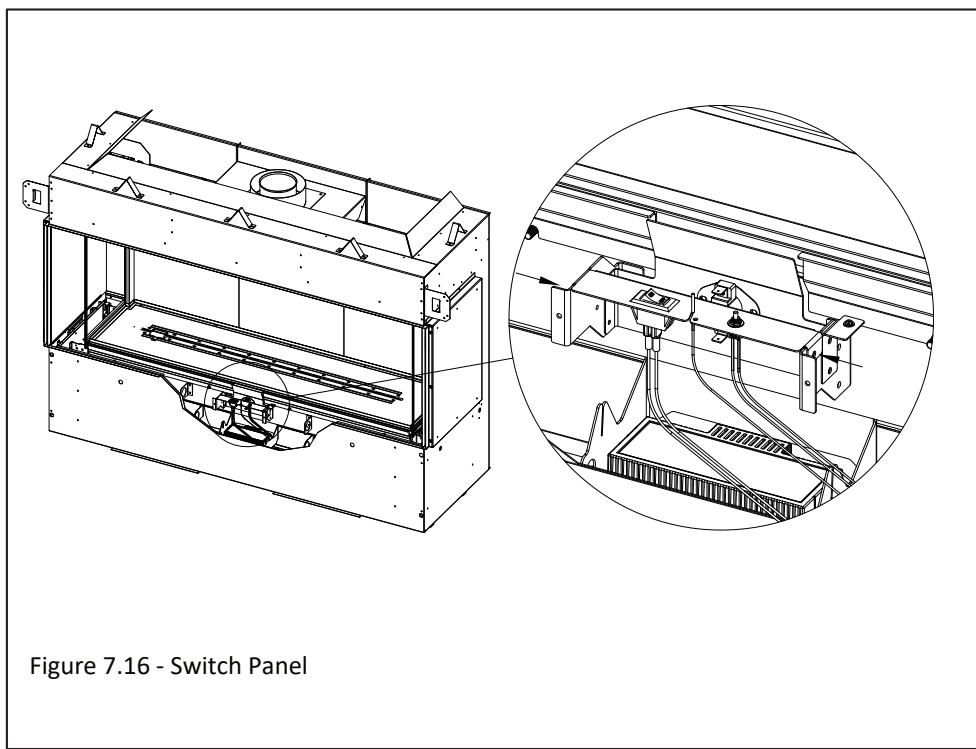

Figure 7.16 - Switch Panel
4. Remove the (2) sheet metal screws that secure the switch panel. Lift this panel off its support bracket and locate the slits in the control module brackets. Slide the switch panel into these openings to secure it during control board removal. Figure 7.16 and 7.17.